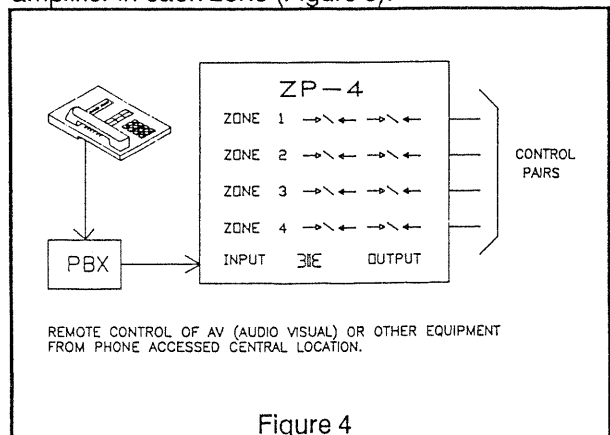

Figure 4
1) The maximum current rating of each relay contact is 1 amp at 24 volts DC with a non-inductive load. However , the maximum capacity of each contact is reduced to 20 watts when AC voltage is operated into an inductive load. Therefore, the maximum wattage switched by each contact should be limited to 20 watts to prevent shortened service life of the relay. When switching loads greater than the relay contact ratings, use a University Sound Model RSP-1 Self Powered Relay to repeat the function of the ZP4 contacts to switch a greater load (Figure 4).
3) Switching control circuits other than audio such as an RSP-1 (Figure 4).